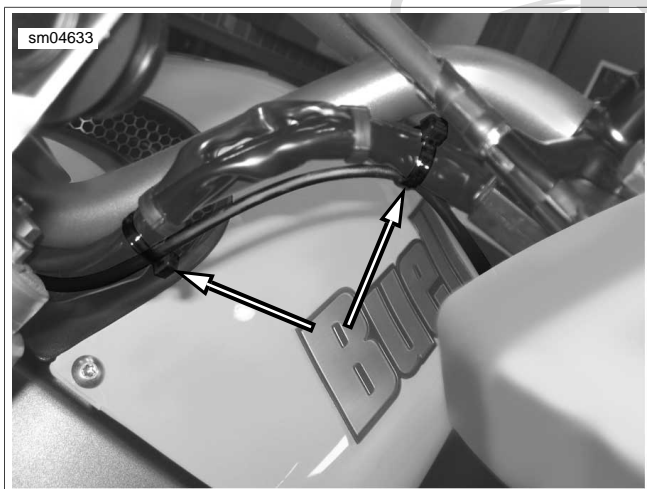

Figure 6-35. Location of Cable Straps, Left Side
4. See Figure 6-35. Secure the left heated hand grip wire to the hand control wire bundle.